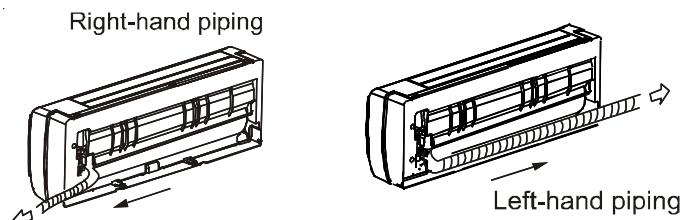

Figure 8
- 7. REFRIGERANT PIPING INSTALLATION:** For the left-hand and right-hand piping, remove the pipe cover from the side panel. (Figure 8.)